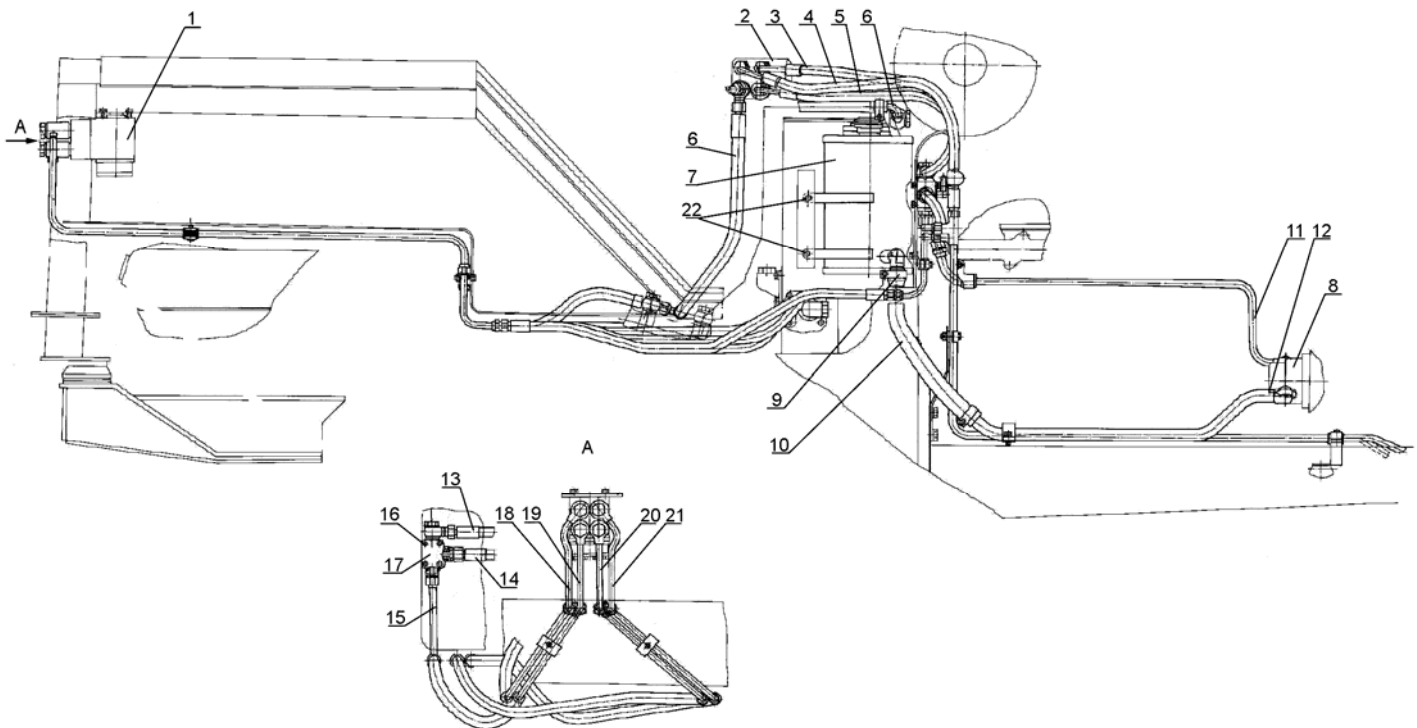

Figure 7.6
- disconnect high-pressure sleeves 3, 4, 5, 6 (Figure 7.6);
- dismount valve of reverse 17 (Figure 7.6) from tractor, and to do this: